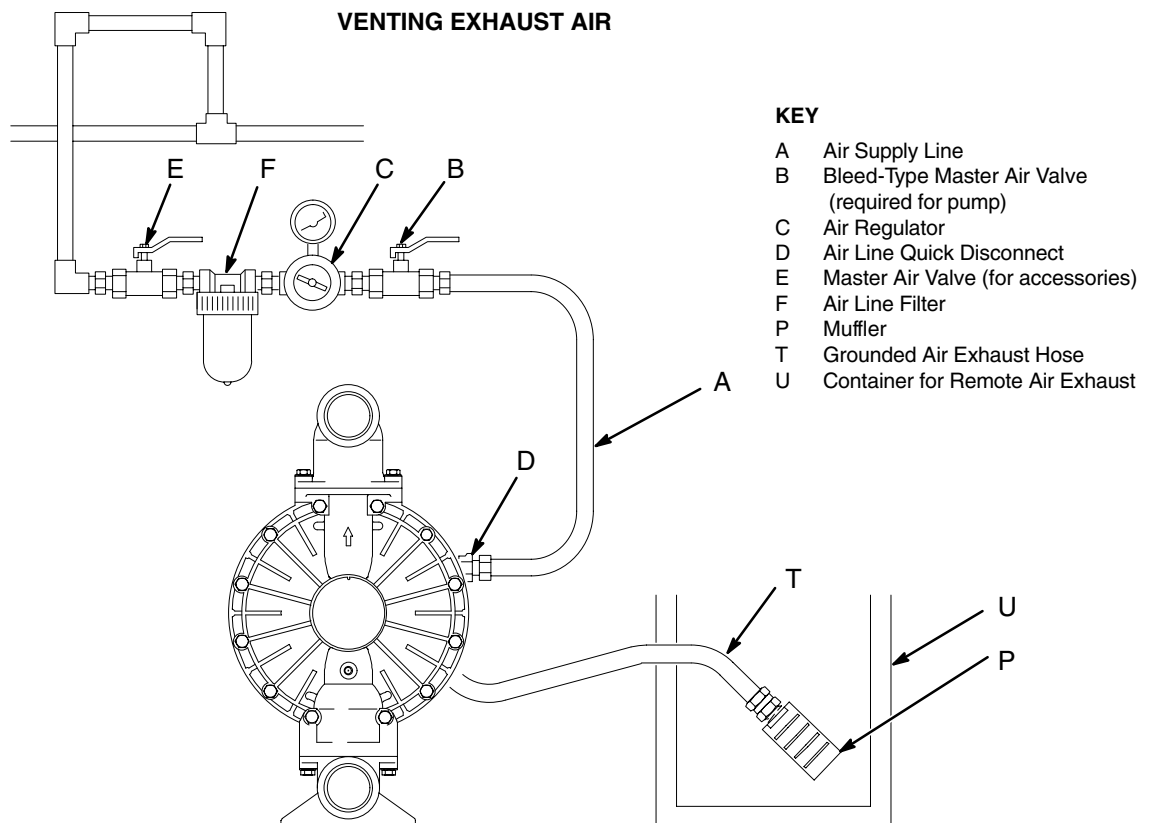

Fig. 5
Diaphragm failure will cause the fluid being pumped to exhaust with the air. Place an appropriate container at the end of the air exhaust line to catch the fluid. See Fig. 5.
1. Remove the muffler (P) from the pump air exhaust port.
2. Install a grounded air exhaust hose (T) and connect the muffler (P) to the other end of the hose. The minimum size for the air exhaust hose is 19 mm ID. If a hose longer than 4.57 m is required, use a larger diameter hose. Avoid sharp bends or kinks in the hose. See Fig. 5.
3. Place a container (U) at the end of the air exhaust line to catch fluid in case a diaphragm ruptures.